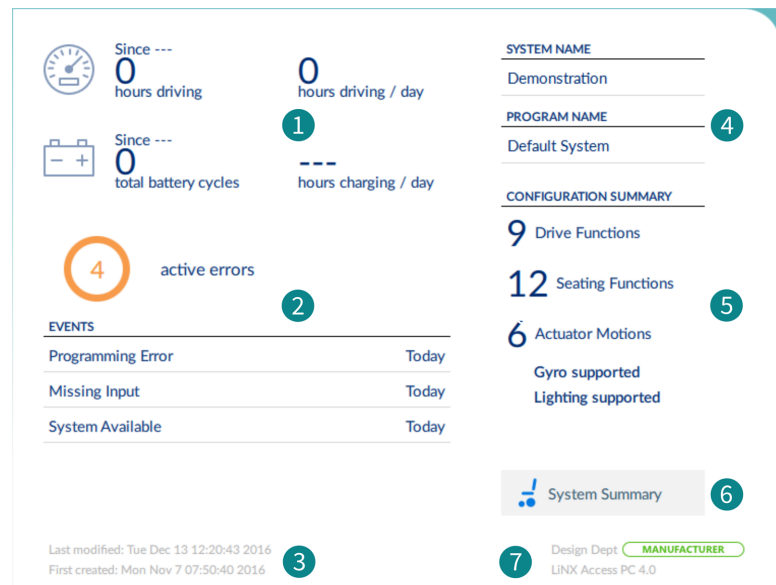

Figure 77: Viewing system information
To view, click the **System Summary** button (see item 6 in Figure 77) at the lower-right of the home screen.